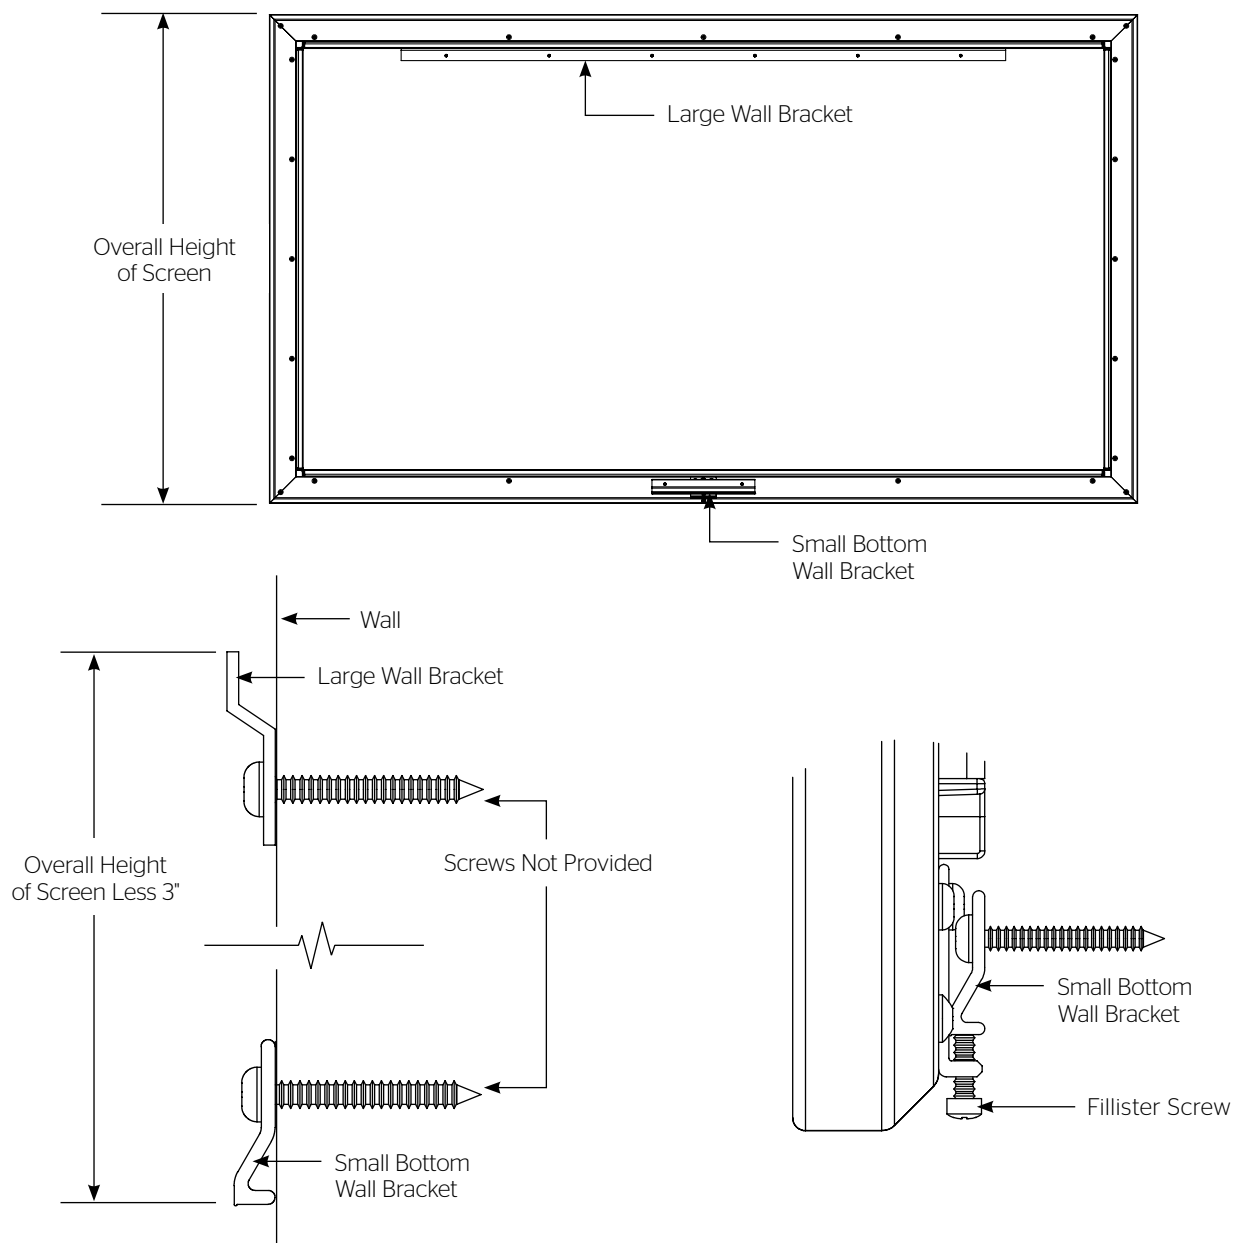

Figure 8 – Screens Under 104" in Viewing Width
1. Secure the large top wall bracket to wall studs at the desired height. Make sure the bracket is level. The top of the screen will be 2- $\frac{1}{4}$ " above the top of the edge of this wall bracket when mounted. You will need at least a 3" clearance above the bracket to hang the screen (Figure 8).
2. To install the small bottom wall bracket, you must measure the overall height of the screen and subtract 3". Find the center point of the top wall bracket. Using your screen height minus 3", measure down from the top edge of the top wall bracket and mark the wall. This will be the center point of the bottom edge of the bottom wall bracket. Level the bottom wall bracket and mark the wall for the two screw holes in this bracket (Figure 8).
5. To secure your screen against wall, locate the fillister screw in the bottom frame bracket. Tighten the screw until it touches the bottom wall bracket, then rotate two more turns (Figure 8).